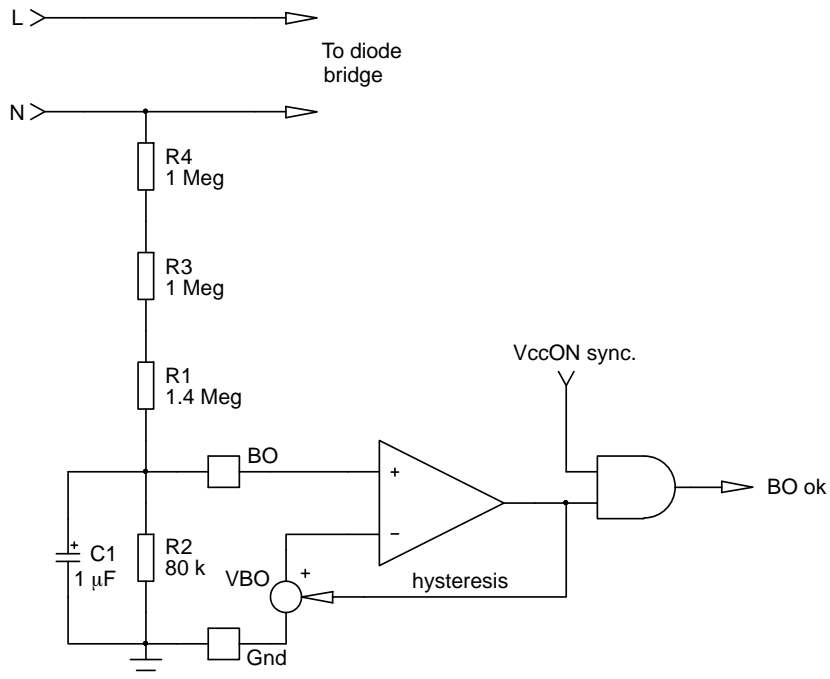

Figure 52. A simple comparator monitors the input voltage via a single pin. When this voltage is too low, the pulses are stopped and the V_{cc} hiccups.
Brown-out (BO) is a means to protect the converter against an erratic behavior that can occur at the lowest input voltage level. By safely stopping the output pulses when the mains is below a predetermined value, the converter prevents thermal runaway, greatly improving its robustness. Brown-out protection is another way to avoid an erratic hiccup mode when too low of an input voltage limits the power delivery. Some applications, such as printer power supplies, forbid this kind of operations and impose a clean stop. In that case, brown-out detection/protection is the way to go. Figure 52 shows a simplified implementation in the controller.